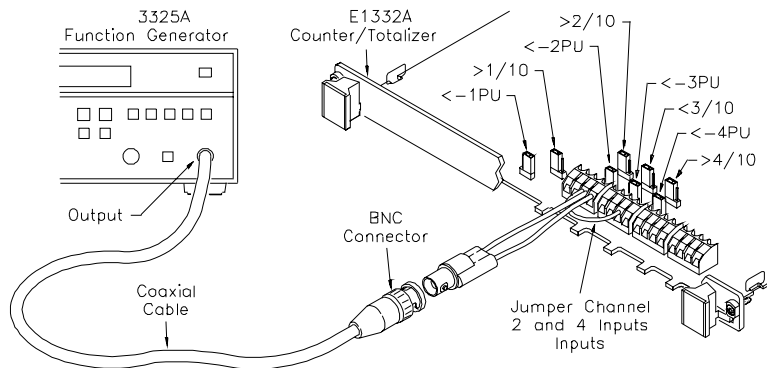

Figure 4-10. Pulse Width Test Setup
1. Connect the equipment as shown in Figure 4-10.